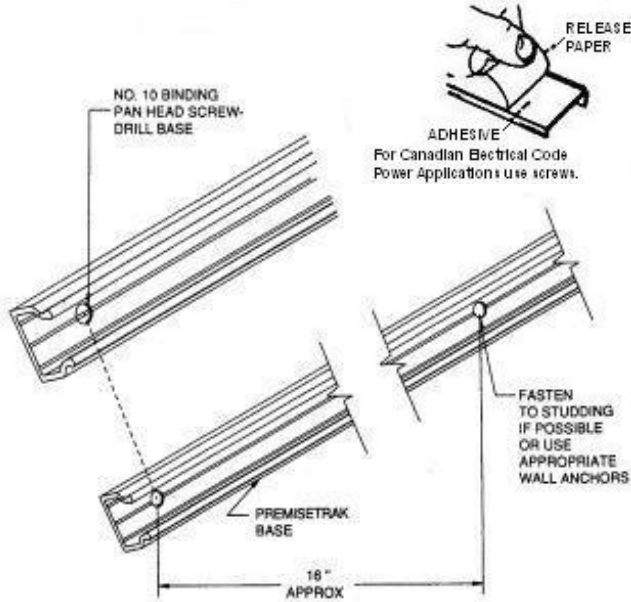

FIG. 6 Mounting PREMISETRAK Base...
4. Install PREMISETRAK base section abutting device box base (fig. 2). Align centering line of raceway with centering tab on device box base. Continue along run, installing PREMISETRAK base, device and/or fixture bases in sequence, as in appropriate installation details. Cut PREMISETRAK base sections to length as required. Align base sections with ends abutting, drill and fasten to surface as in fig. 6.